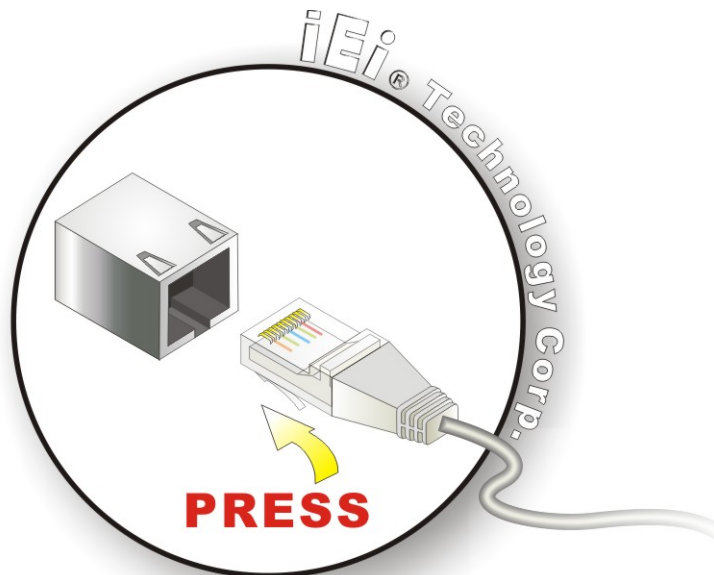

Figure 4-13: LAN Connection
Step 2: **Align the connectors.** Align the RJ-45 connector on the LAN cable with one of the RJ-45 connectors on the PCIE-Q57A. See Figure 4-13.